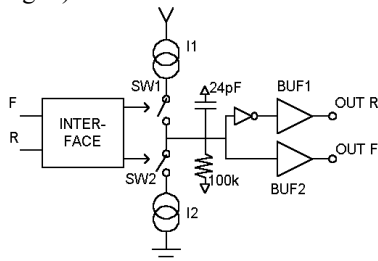
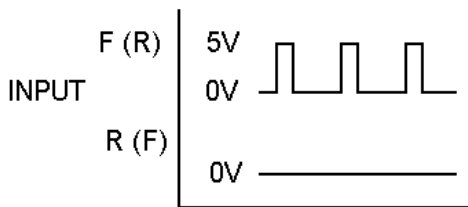
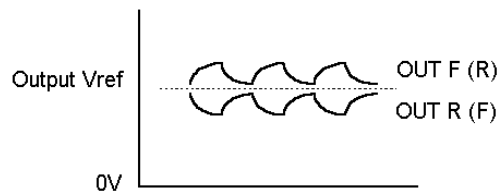

Fig. 1
Fig. 2
Fig. 3
(1) Fig. 2 shows the inputs from the digital servo IC for CH1-CH3 drivers (all drivers except the spindle). SW1 is on when the forward input signal (HIGH level, over 2.4V) is present. SW2 is on when the reverse input signal is present (Fig. 1). The constant current (I_1) at this time enters the RC and generates an integral waveform based on the duty of the input waveform. The BTL is output from BUF1 and BUF2 (Fig. 3).
This can be increased by inserting a capacitor between point A (pins 3, 11 and 18) and V_{REF} . The constant current (I_{const}) given in the electrical characteristics refers to I_1 and I_2 in Fig.1.